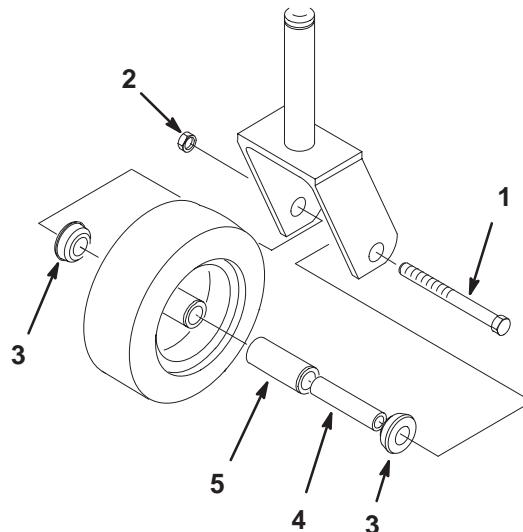

Figure 66
1. Remove the locknut and wheel bolt holding the castor wheel to the castor fork (Fig. 66).
2. Remove one bushing, then pull the spanner bushing and roller bearing out of the wheel hub (Fig. 66).
3. Remove the other bushing from the wheel hub and clean any grease and dirt from the wheel hub (Fig. 66).
4. Inspect the roller bearing, bushings, spanner bushing and inside of the wheel hub for wear. Replace any defective or worn parts (Fig. 66).
5. To assemble, place one (1) bushing into the wheel hub. Grease the roller bearing and spanner bushing and slide them into the wheel hub. Place the second bushing into the wheel hub (Fig. 66).
6. Install the castor wheel into the castor fork and secure with the wheel bolt and locknut. Tighten the locknut until the spanner bushing bottoms against the inside of the castor forks (Fig. 66).